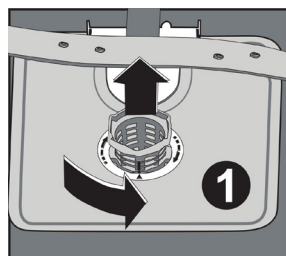

Fig. 13
- Turn the micro-filter anticlockwise and then lift it out (Fig. 13).